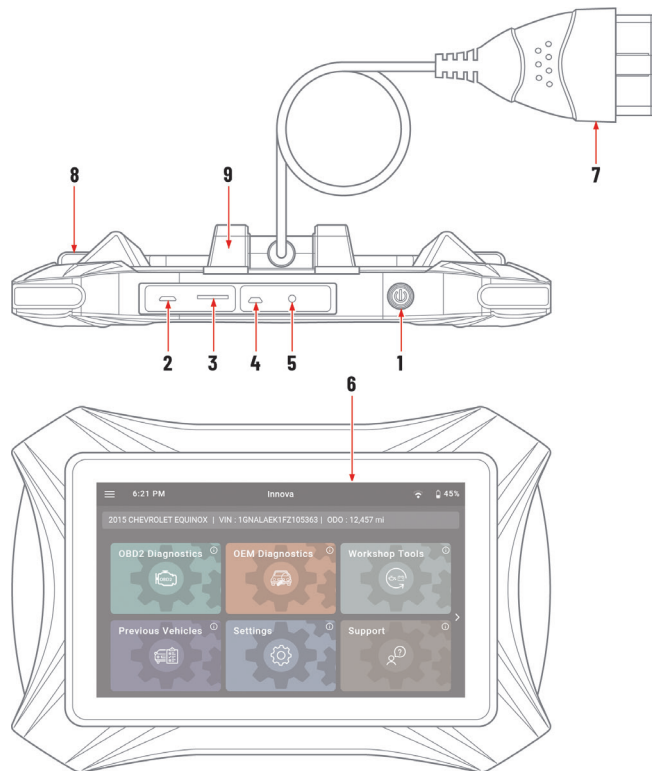

Figure 1: Tablet Controls
See **Figure 1** for the locations of items 1 through 9, below.